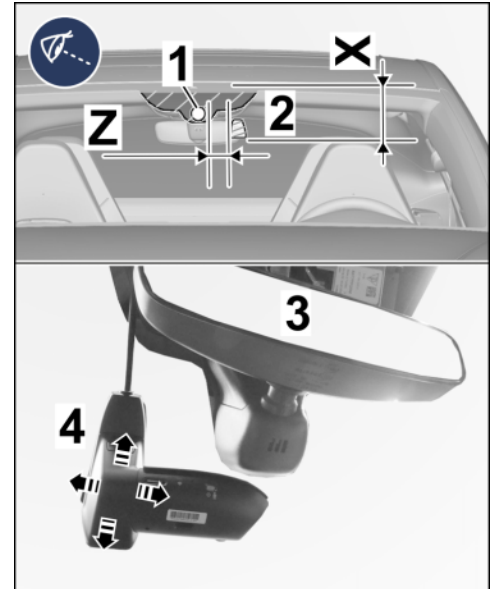

Figure 8
2.1.3 Copy dimensions X and Z on the windshield (⇒ *Figure 8 -top-*).
2.1.4 Position front camera with retainer plate in the vehicle at the marking on the windshield (⇒ *Figure 8 -Arrows-*).